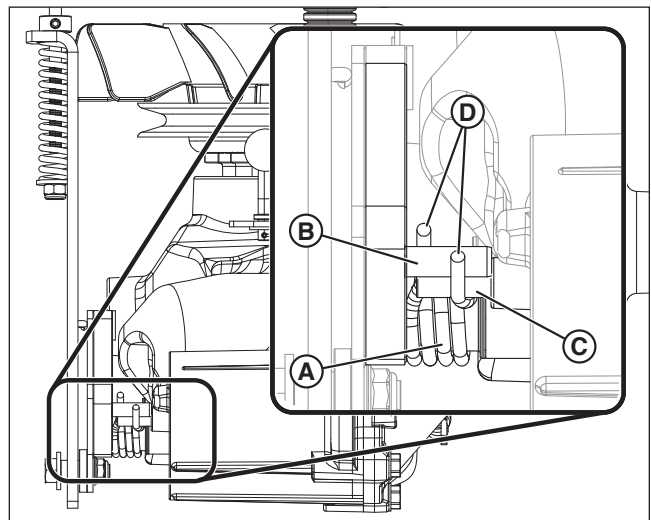

Figure 4. Control Arm Adjustment
8. Inspect the control arm spring (**A**, **Figure 4**) on the transaxles. When the parking brake is released the parking brake lever post (**B**) will come into alignment with the stationary housing post (**C**). The two posts (**D**) of the spring will rest on the stationary post.